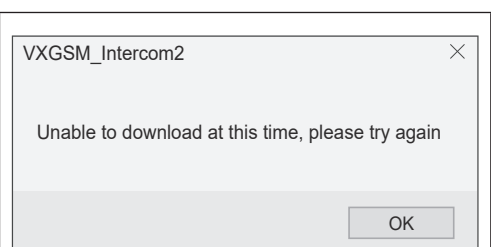

Fig. 142
- Another prompt will appear, unable to download at this time, as shown in **Fig.142**.